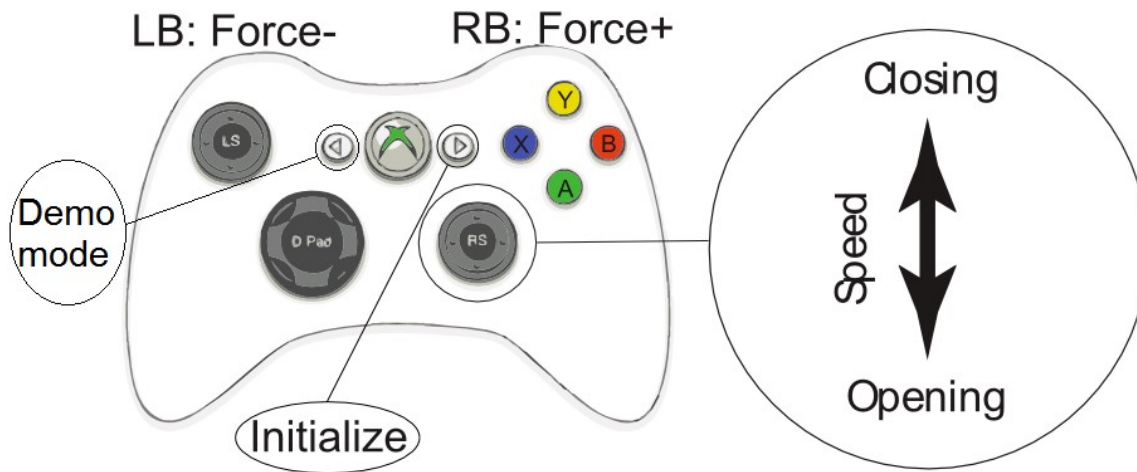

Fig. 5-10: Xbox Controls for the Adaptive Robot Gripper series.
- **Xbox Joystick control** allows control of the Gripper using a remote Xbox controller (see Fig. 5-10: for a summary of the available controls).